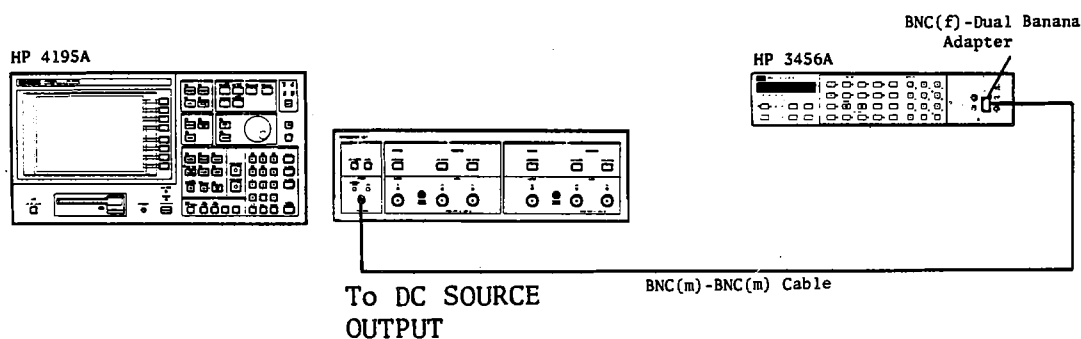

Figure 3-134. DC Bias Full-scale Adjustment Setup
1. Position the Control and Measurement Units as shown in Figure 3-134, and connect the Interconnection cables between both units.
2. Connect the equipment as shown in Figure 3-134.